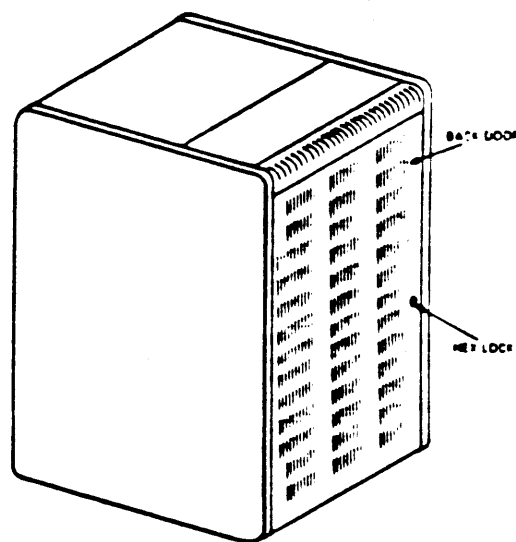

Figure 2-23. Use an Allen Wrench to unlock the Hex Lock.
- o Use a hexagonal key (allen wrench) to unlock the door (see Figure 2-23).